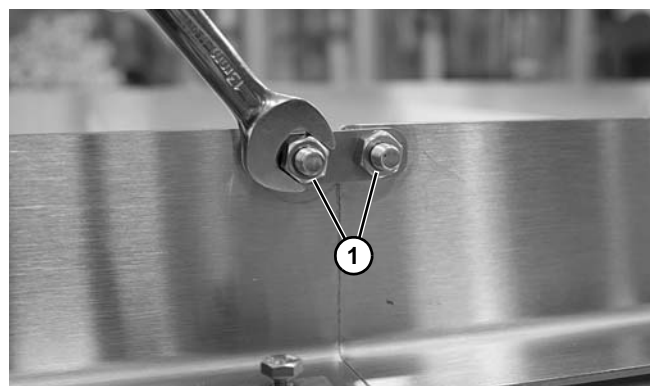

Figure 25
5. Install nuts (**Figure 25, item 1**) and tighten.